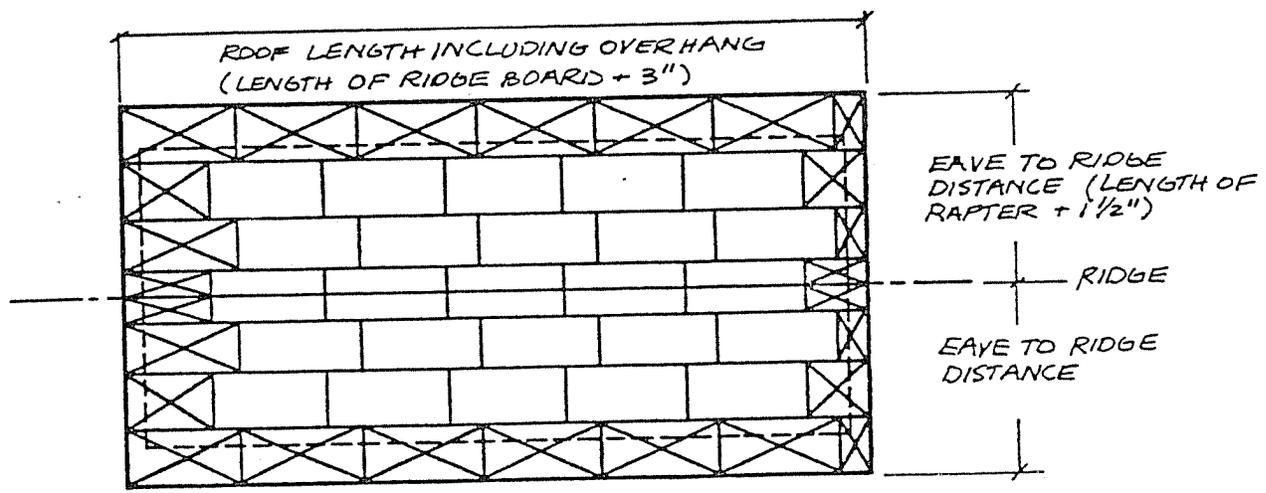

FIGURE 3
8. Move ridge board sections and rafters onto the ceiling framing. (Lay plywood panels over the ceiling joists for safer footing.) First erect the ridge board and the rafters nearest its ends, as shown in Figure 3. If the ridge of the house is longer than the individual pieces of ridge board, you'll find it easier to erect each piece separately, rather than splicing the ridge board full length first. Support the ridge board at both ends with the temporary props. Toenail the first rafter pair securely to the ridge board using at least two 8d nails on each side, then nail at wall. Install other end rafter pair in the same manner.